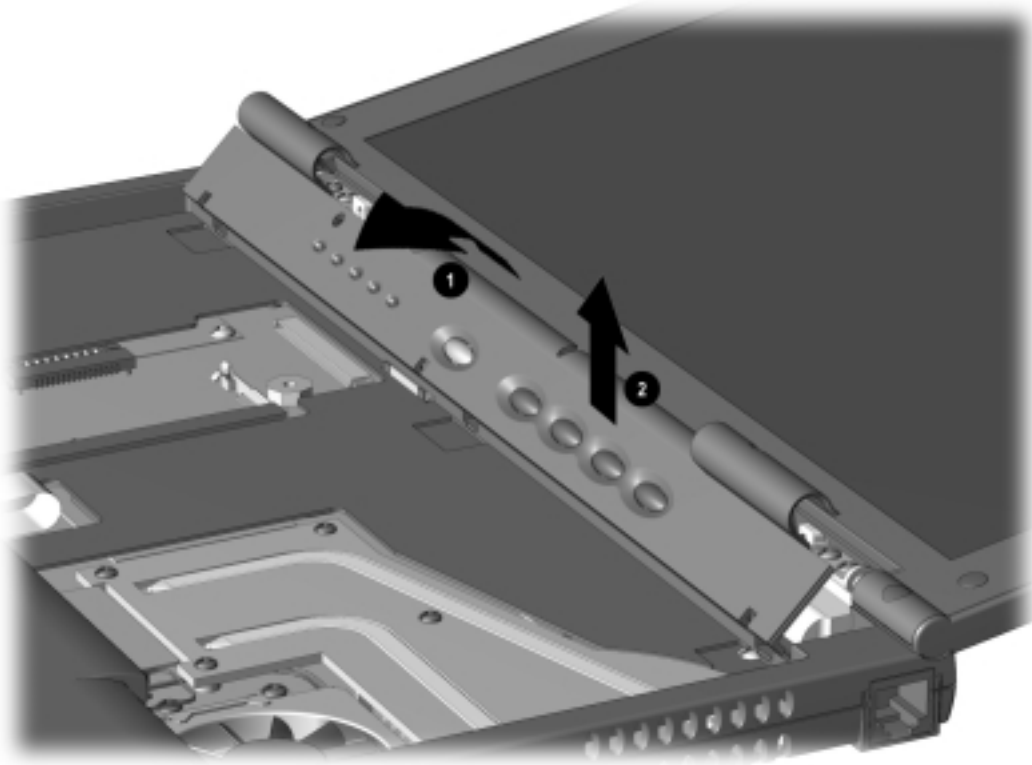

Figure 5-19. *Removing the Switch Cover*
7. Swing the back edge of the switch cover forward ❶ (Figure 5-19).
8. When the switch cover disengages from the base assembly, remove the cover ❷.